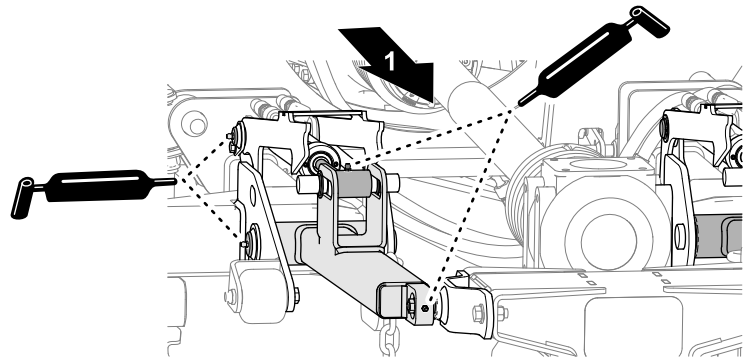

Figure 47
- Apply grease the lift arms and hydraulic cylinders, and impact struts of the center mower deck (Figure 47).
Apply the specified grease to the grease fitting at the 3 spindles at each mower deck (Figure 47).